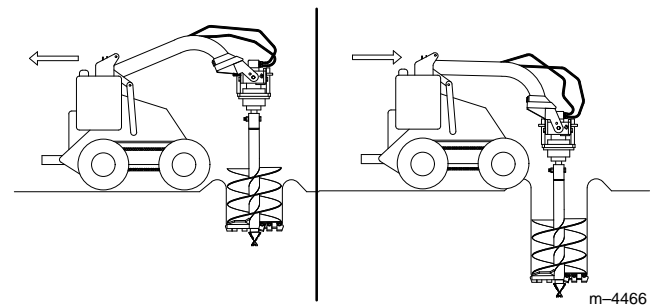

Figure 10
4. Lower the auger slowly as the soil is loosened. As you dig deeper, move the traction unit backward, forward, right, or left as required to keep the hole vertical (Fig. 10).